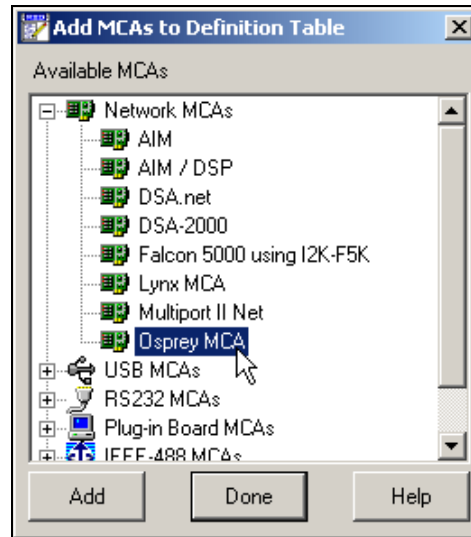

Figure 3 Adding an Osprey MCA
3. Select **Osprey MCA** from the list of available MCAs by clicking on the ‘+’ symbol next to Network MCAs (Figure 3). Use this selection for both Ethernet and USB connections.